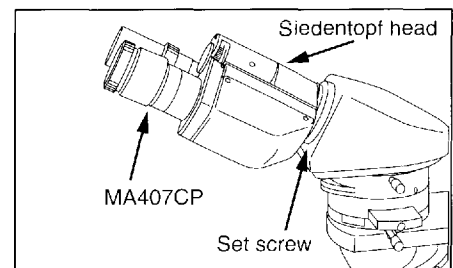

Figure 3
- Install the Siedentopf head with the 2mm allen wrench supplied being careful to align the notch in the head with the set screw.(Fig.3) Next, install the MA407CP focusing eyepiece by sliding it into the slotted right eyetube and install the other eyepiece (MA407) into the left eyetube. The rubber eyeshields can also be installed on top of each eyepiece. **The eyepieces for MT9000 Series are a DIN standard 23.2mm diameter.**